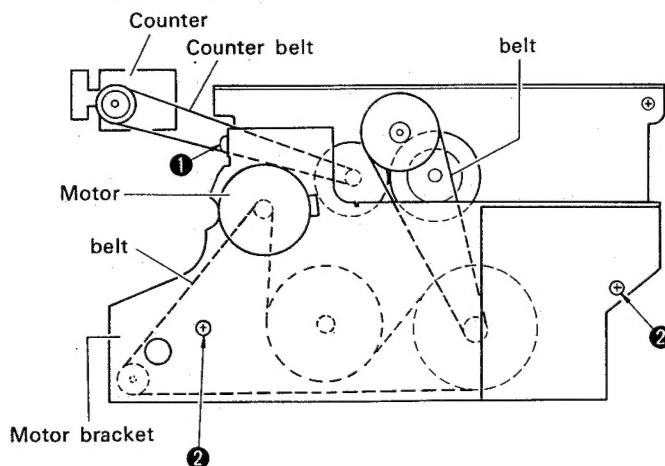

Fig. 3-4 Replacement and applying of belt
1. Remove a screw ① and 2 screws ②, and remove the motor bracket.
2. How to apply the belt is as shown in Fig. 3-4.